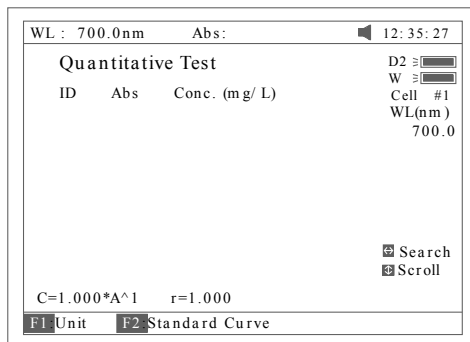
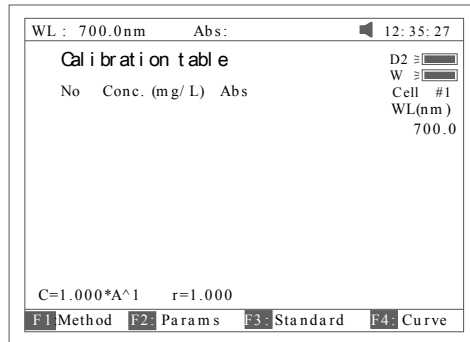
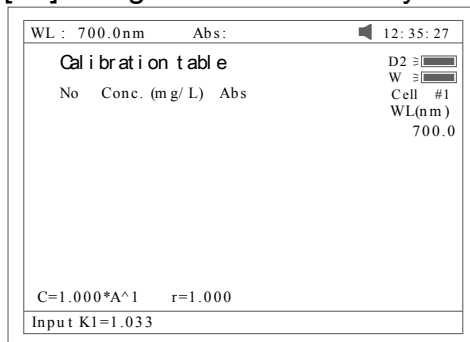
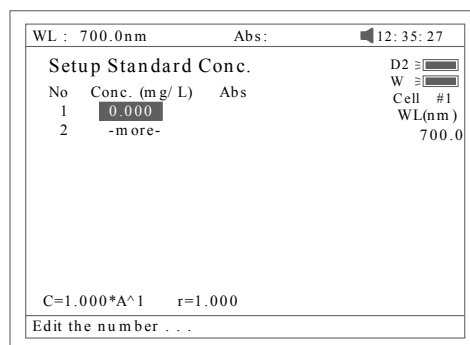

Fig 26
Fig 29
Fig 29A
Fig 30
Press **[2]** in Main Menu for “Quantitative” Test (Fig 26). Press **[ESC/STOP]** to exit.
Note: .If no automatic changer installed “cell #1” will disappear in Fig 26.
- Press [F2] in Fig 26 for more items to select .See Fig 29.
- Press [F1] in Fig 29 to select fitting method. There are 4 methods for you to choose: Linear fit, linear fit through zero, square fit and cubic fit.
- Press [F2] in Fig 29 to enter directly a known standard curve. Fig 29A.
- Press [F3] in Fig 29 to establish a standard curve by measuring a group of standard samples. See Fig 30.
- Known standard curve, which is not saved in the instrument. See page 17 for Fig 29 enter a known standard curve directly.
Note: All sample results must be taken in screen Fig 26.